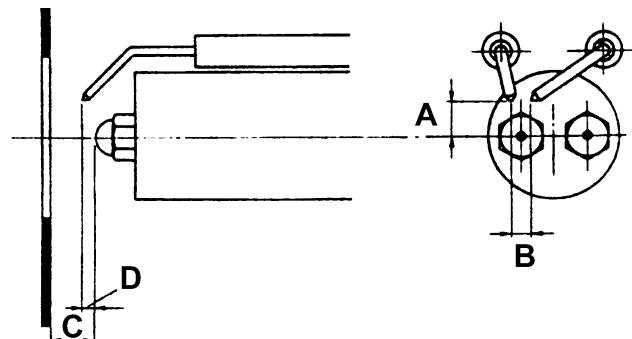

Fig. 12
To guarantee a good ignition the measures showed on the next picture Fig. 12 must be observed.
- 5 remove the electrodes and replace them, referring to the values quoted on Fig. 12.